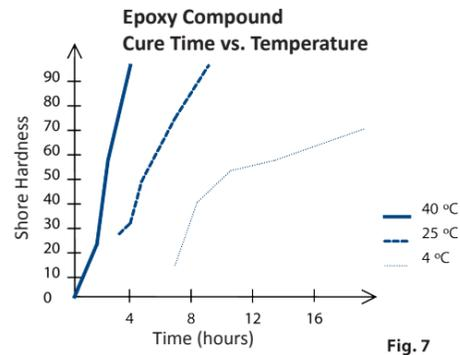

Fig. 7
See notes overleaf and Fig. 7 for compound preparation.
H Allow the compound to cure. (See Fig. 7 for curing times). Untighten firstly the backnut ① from ② and secondly the middle nut ② from the entry ⑤. The rubber pot ④ may be removed for inspection to ensure that the packing is satisfactory. Add further compound if necessary.